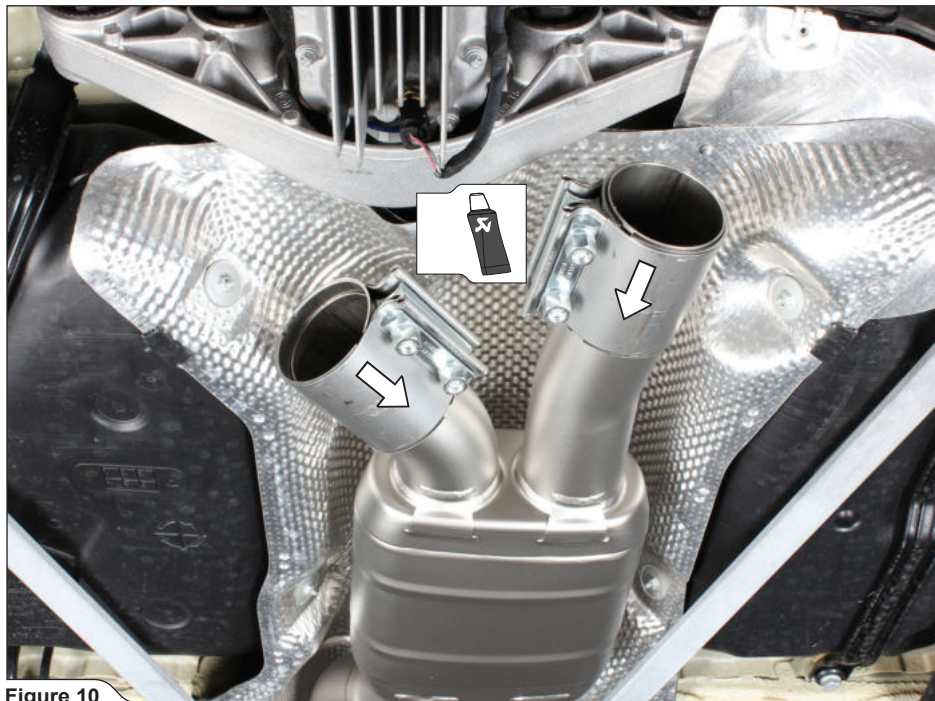

Figure 10
5. Slide the double clamps from Akrapovič installation kit onto the link pipes outlets, as shown (Figure 10).